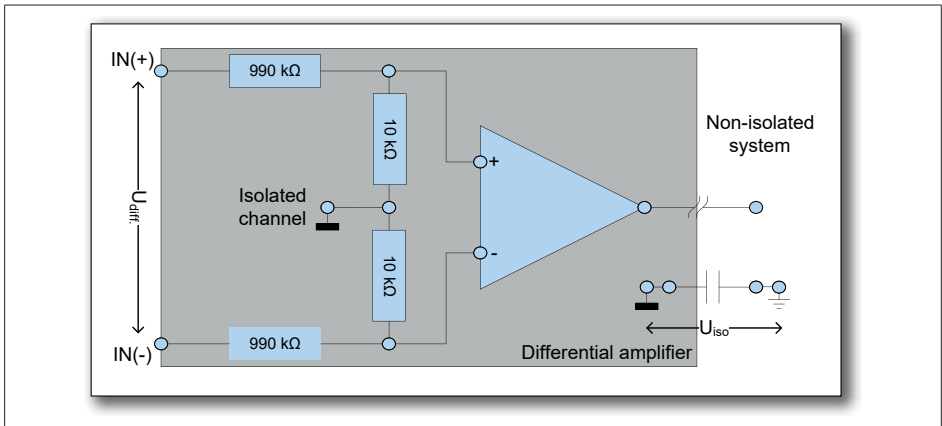
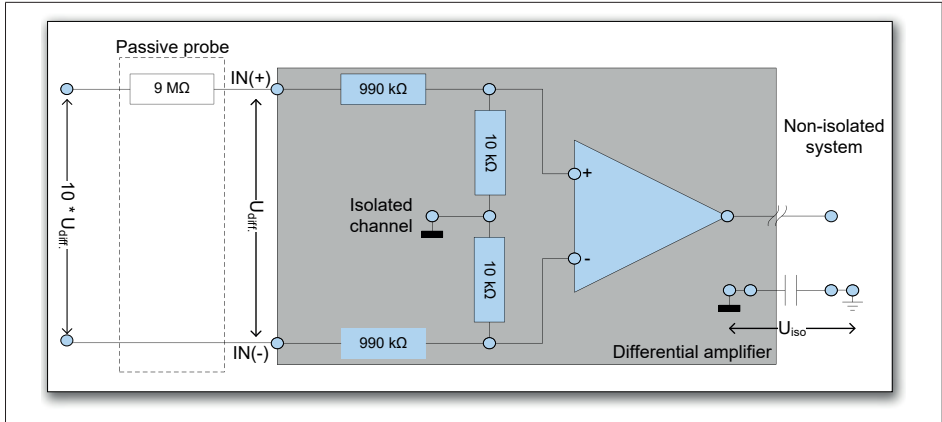

Fig. 13.37 Isolated balanced input channel
Fig. 13.38 Isolated balanced input channel with passive probe
- The isolated ground is not externally accessible, as shown in Fig. 13.37.
Looking at Fig. 13.37, the GN610B/GN611B specifies $U_{IN(+)}$, $U_{IN(-)}$ and $|U_{iso}| \leq 1 \text{ kV}$. Using a standard passive 10:1 probe, combined with the GN610B/GN611B results in the situation shown in Fig. 13.38.